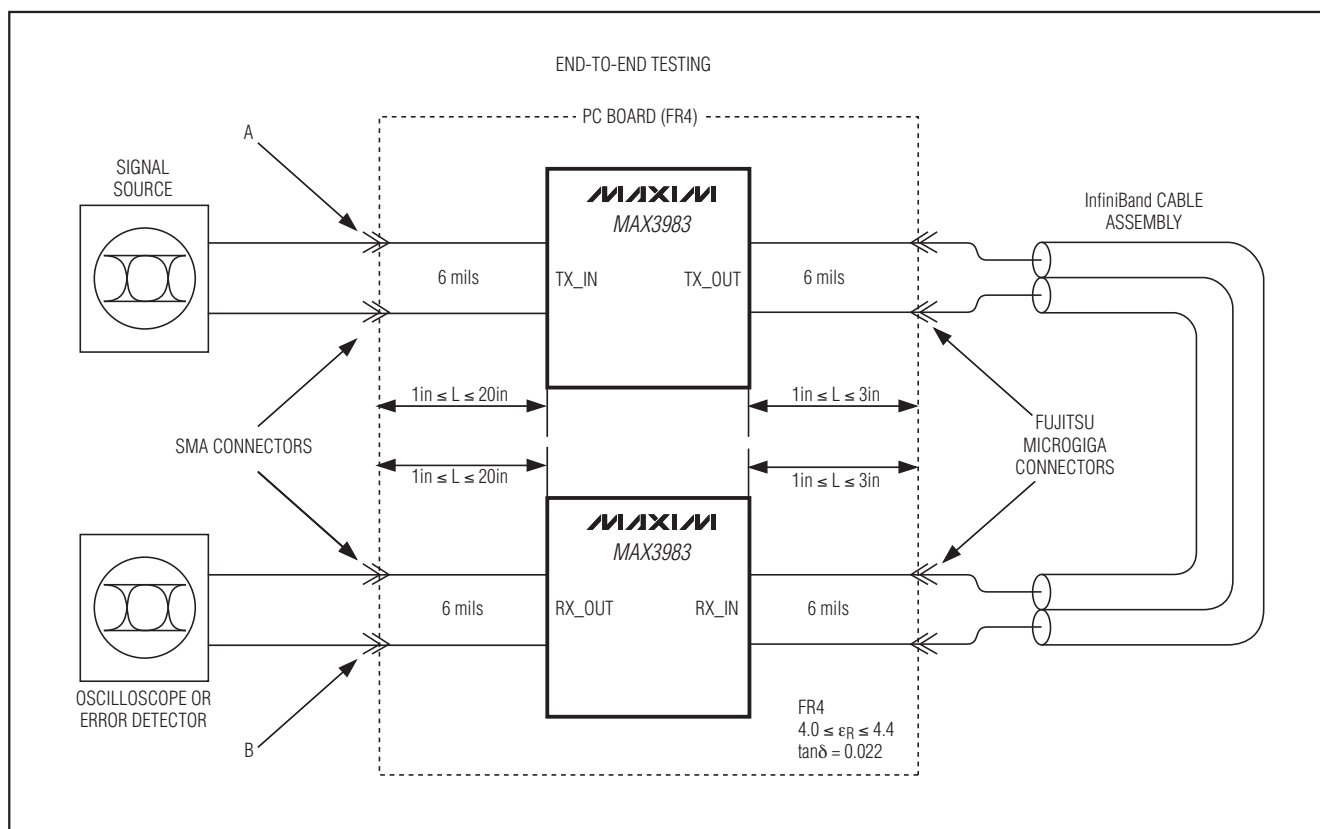

图2. 端-端测试装置。A、B标注点为交流参数测试的参考。
Note 13: Cables are unequalized, Amphenol Spectra-Strip 24AWG or equivalent equipped with Fujitsu “MicroGiga” connector or equivalent. Residual deterministic jitter is the difference between the source jitter at point A and the load jitter at point B in Figure 2. The deterministic jitter (DJ) at the output of the transmission line must be from media-induced loss and not from clock-source modulation. Depending upon the system environment, better results can be achieved by selecting different preemphasis levels.